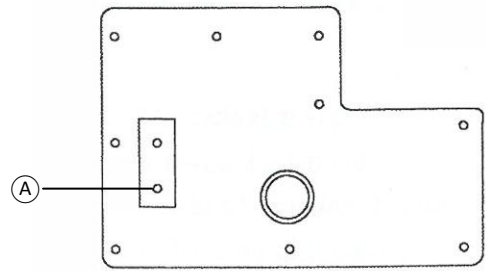

Fig.7-2.6
6. The cone clutch in the center of the apron is an overload device. The safety overload weight limitation is 12Kg. This can be adjusted using the hexagon screw, located in the center of the apron. Turning the screw clockwise will increase the tension, counter clockwise will decrease the tension. This devise should automatically slip out if the overload is over 12Kg. When the auto-feed is engaged (Fig. 7-2.6) and the handwheel is held.